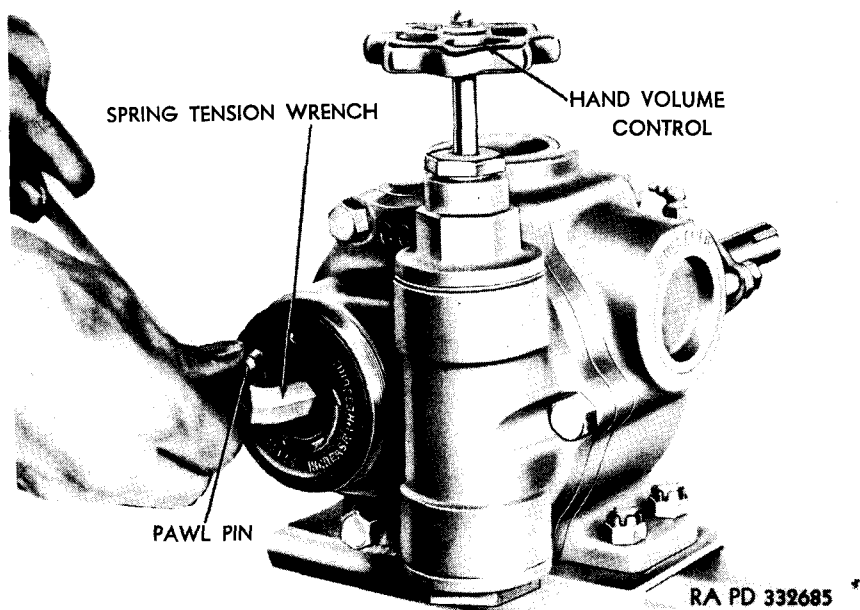

Figure 73—Adjusting Discharge Pressure of Pump
a. Remove spring chamber cap. Insert spring adjusting wrench in end of top spring plate (fig. 73). Turn the wrench to the left, until spring tension is felt, and the control mechanism comes up against the stop. Turn the wrench until eight holes in spring plate have passed hole in head casting, and insert the pawl pin to lock spring in position. This tension should give an approximate idling pressure of 25 pounds. Screw spring chamber cap on tightly before operating the pump.
which unscrews, and release spring tension by inserting spring tension wrench (fig. 73), and exerting sufficient pressure in counter-clockwise direction, and removing pawl pin. Remove bolts attaching control head, and disassemble pump. **CAUTION: Do not drop out or disassemble rotor parts.** Install new gaskets and bolt pump together. Adjust spring tension (par. 74).